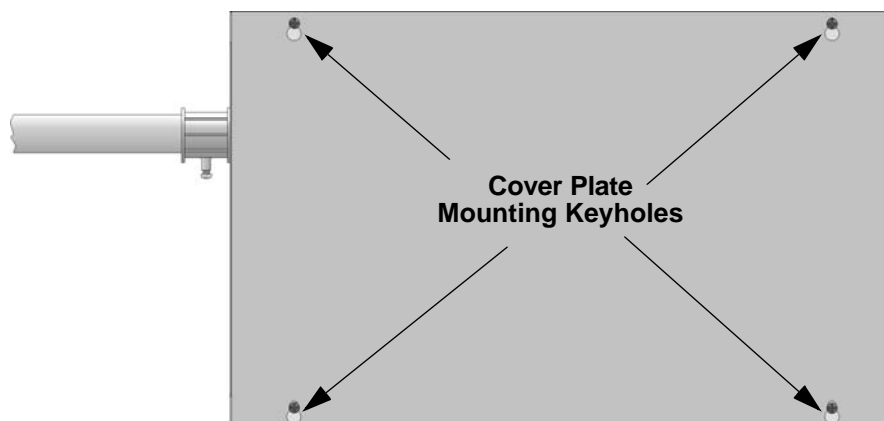

Figure 4-6 Cover Plate Mounting Keyholes and Cover Mounting Screws Alignment
- Align the cover plate mounting keyhole over the cover mounting screws. See Figure 4-6.
- Slide the cover into place and tighten the cover mounting screws. See Figure 4-6.